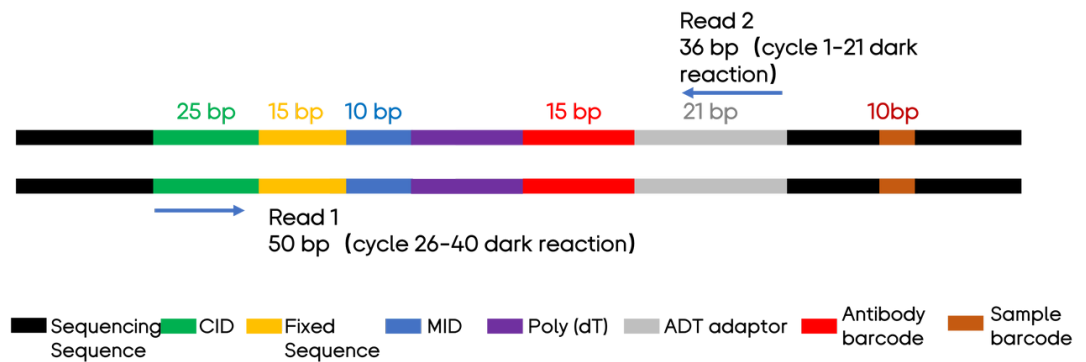

Figure 6 Stereo-CITE ADT Library Sequencing Strategy (when sequenced individually on G400)
- Protein ADT library (Figure 6):